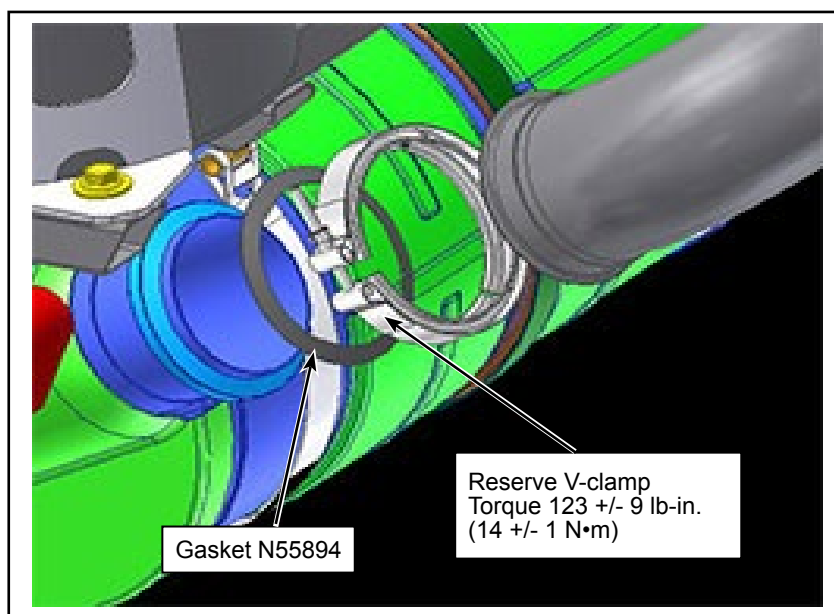

Figure 3 - Fastening of the Exhaust Pipe to the Exhaust DPF
- 1.9. Affix exhaust pipe N83635 to the DPF exhaust with N55895 exhaust gasket and N55894 clamp. See Figure 3 for torque value.